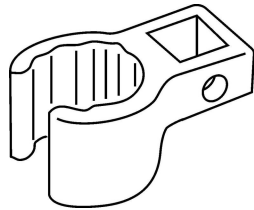

Figure 4
9. Make sure the attaching nuts P/N STD-1410 are torqued to 17 ft.-lbs. (204 in.-lbs.) (23 Nm). In airframe installations where it could be difficult to access the attaching nuts, use a torque wrench with a crowfoot attachment. See Figure 4 for an example of a crowfoot attachment.